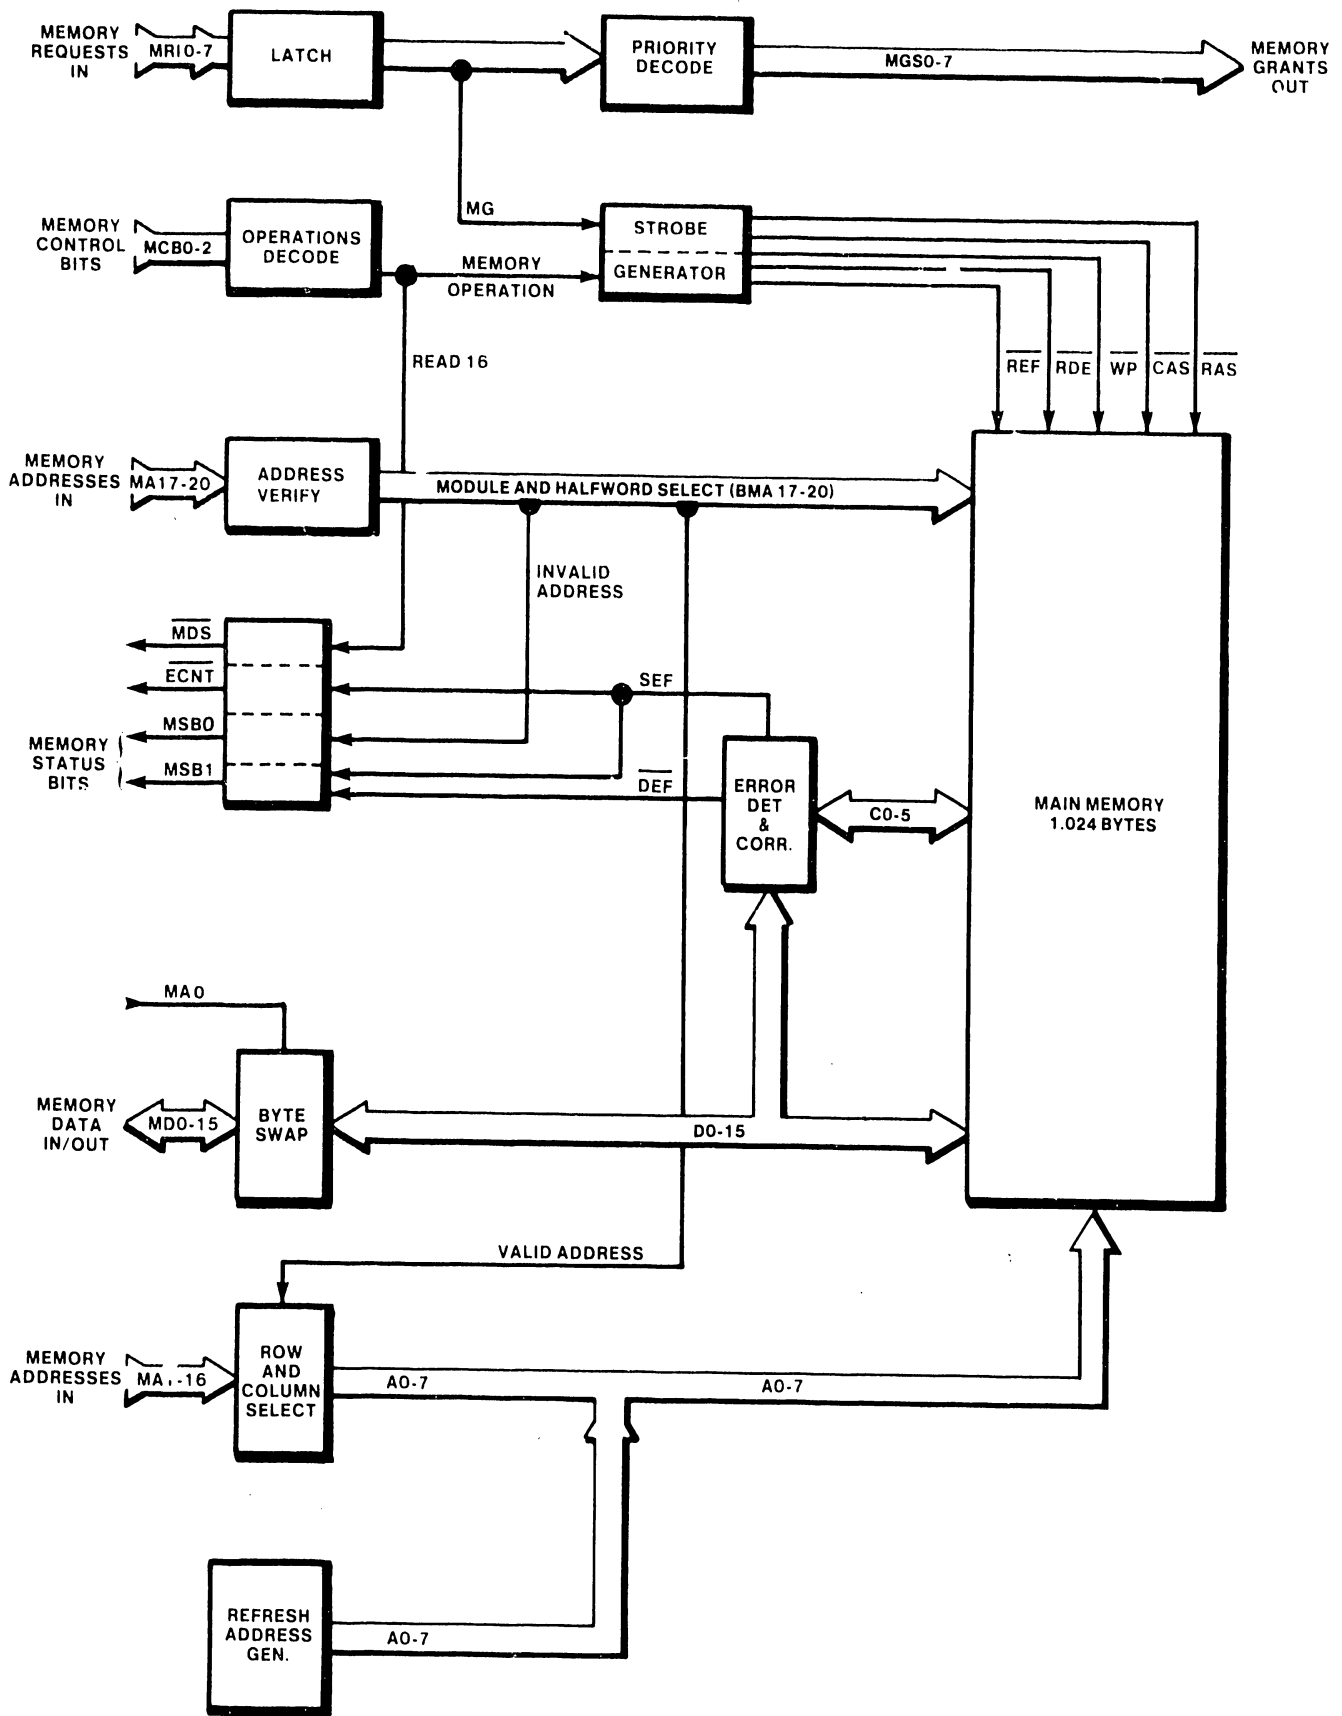

Figure 2-3. VS-25/45 Main Memory Block Diagram
The VS-25/45 Main Memory (figure 2-3) is configured on one memory board (module) containing up to 512K halfwords (1M-byte), and is logically divided into eight rows of 64K halfwords per row. Main Memory (MM) uses a 64K-bit by 1-bit dynamic RAM chip (16 chips per row). The Main Memory board also decodes the memory operation, generates the internal memory control signals, decodes addresses, and generates error indications.